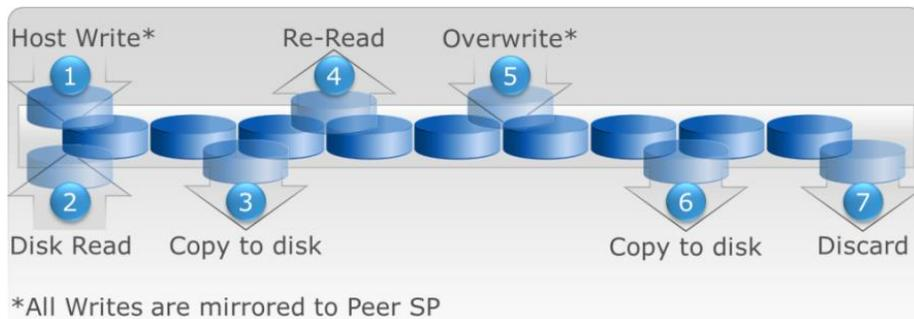

Figure 1 – Adaptive Cache
The Multicore Cache space is shared for writes (1) and reads (2), as shown in Figure 1. Instead of flushing a dirty cache page to disk, the page is copied to disk (3), and therefore it remains in memory and is not discarded. This way, the page can be reused again by the host (4) and (5), which improves performance. Data is ultimately expelled from cache (7), which frees the page for other workloads.